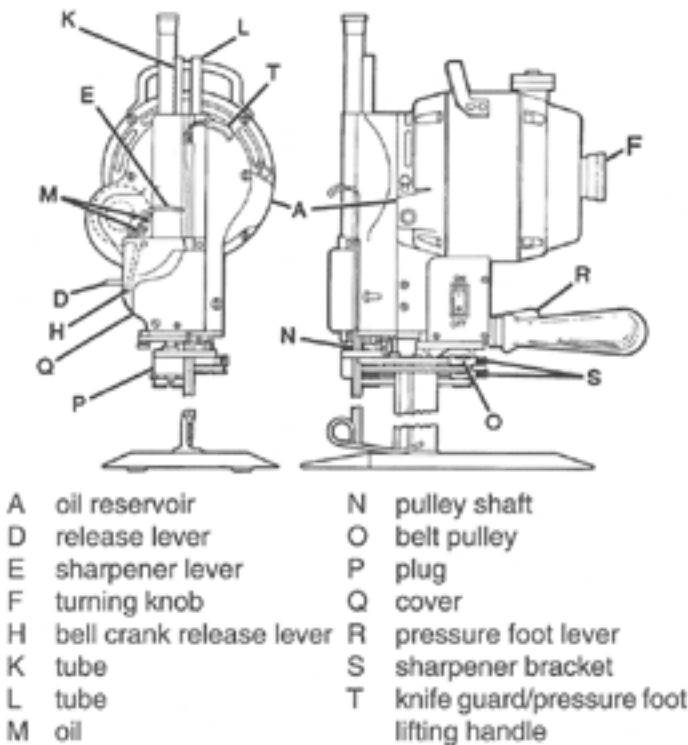

Figure 2. Controls and Adjustments
1. Check that the electrical supply current and voltage that the machine is connected to are the same as stamped on its name plate. For three-phase machines, also check that the direction of rotation is correctly set by the turning knob (Figure 2, F). Refer to the tag attached to all three-phase machines for detailed instructions.
3. Make sure that the sharpener is in the locked position. To do this, push in the turning knob (Figure 2, F). While depressing the turning knob, turn the machine over a few revolutions by hand to see if the knife reciprocates easily. If the knife does not move easily, the sharpener may be in the unlocked position.
4. To lock the sharpener in place, lift the release lever (Figure 2, D) and press the sharpener lever (Figure 2, E) to release the sharpener. Raise the sharpener bracket (Figure 2, S) by hand to lock it in place. Once the sharpener is locked in place, you may disengage the release lever and sharpener lever. Repeat step 3 to ensure that the sharpener is now locked. If not, repeat this step.
7.2 Press the bell crank release lever (Figure 2, H) to disengage the sharpener mechanism from the motor.
2. Raise the knife guard/pressure foot by depressing the pressure foot lever (Figure 2, R) and lifting the knife guard/pressure foot lifting handle (Figure 2, T). Raise the pressure foot only enough to clear the material being cut.
4. Using the pressure foot lever (Figure 2, R) and the knife guard/pressure foot lifting handle (Figure 2, T), lower the pressure foot so that it is slightly above the material being cut. This will prevent the material from reciprocating.
6. When you are not making a cut, or when the machine is not in use, keep the knife guard/pressure foot lowered to the baseplate by depressing the pressure foot lever (Figure 2, R).
2. Make sure the knife guard/pressure foot is lowered to the baseplate by depressing the pressure foot lever (Figure 2, R).
Remove the cover (Figure 2, Q) and clean any lint from around the screw mechanism in the sharpener.
1. Place two drops of oil at each of the two locations shown in Figure 2, M. Use an oil can with a small spout. (A suitable oil can is furnished with the machine.)
2. Fill the oil reservoir (Figure 2, A) for continuous use. If you only use the machine intermittently, you can use less oil.
- Tubes at locations shown as Figure 2, K and L.
- Pulley shaft shown as Figure 2, N.
- Belt pulley shown as Figure 2, O.
2. Remove the plug (Figure 2, P) and insert a grease tube. Squeeze an amount of grease approximately the size of a pea into the opening.
2. Drop the knife guard/pressure foot using the pressure foot lever (Figure 2, R on page 3), located next to the machine operating handle.
3. Press the sharpener lever (Figure 2, E) downward with a slow, firm pressure to engage the sharpening mechanism. Too fast a lever action may cause the lever to lock. If this occurs, lift the release lever (Figure 2, D) and start over again.
2. Using the turning knob (Figure 2, F) raise the blade to top position.